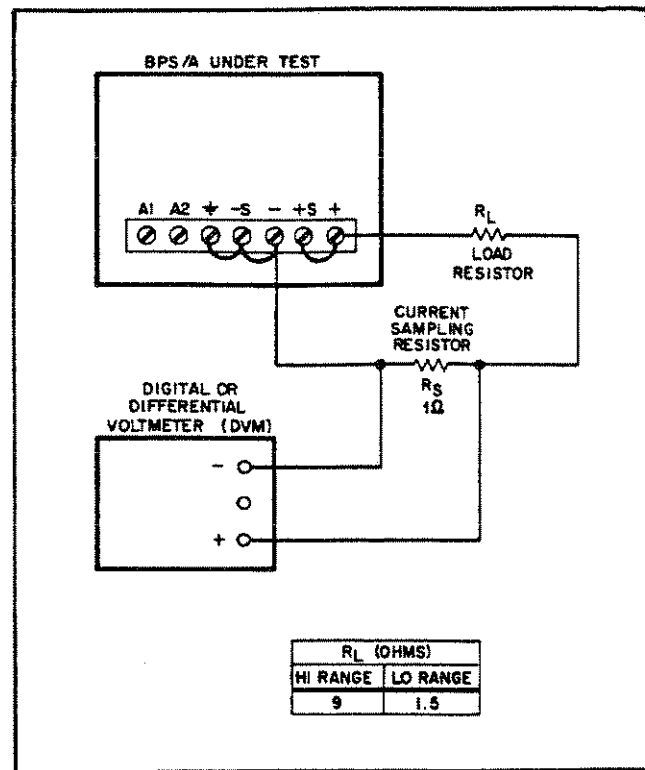

Figure 5-10. Constant Current, Test Setup
- a. Connect test setup shown in Figure 5-10. Use high range load resistor (R_L) connected in series with the 1Ω resistor (R_S).